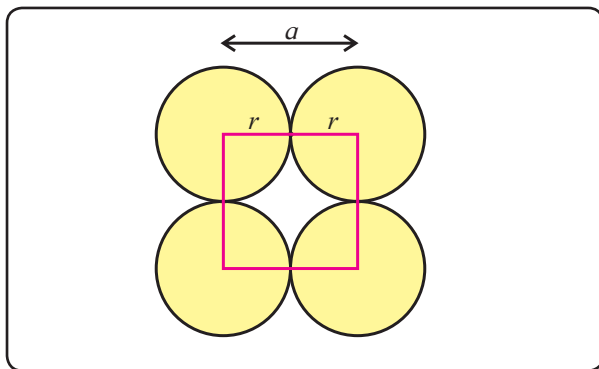

Fig. 1.9 : Face of simple cubic unit cell
Step 1 : Radius of sphere : In simple cubic unit cell, particles (spheres) are at the corners and touch each other along the edge. A face of simple cubic unit cell is shown in Fig. 1.9. It is evident that